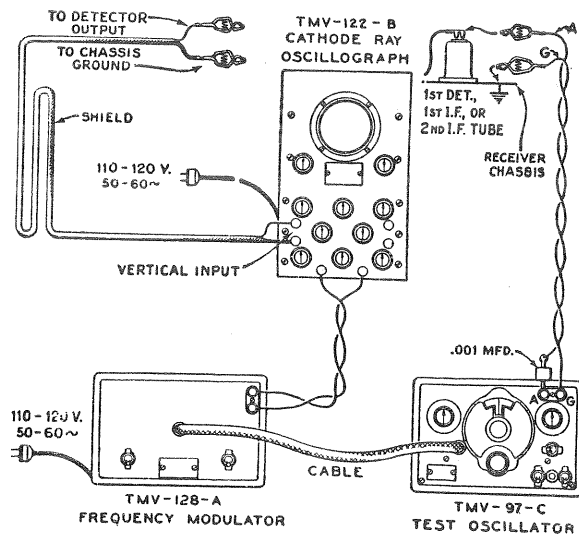
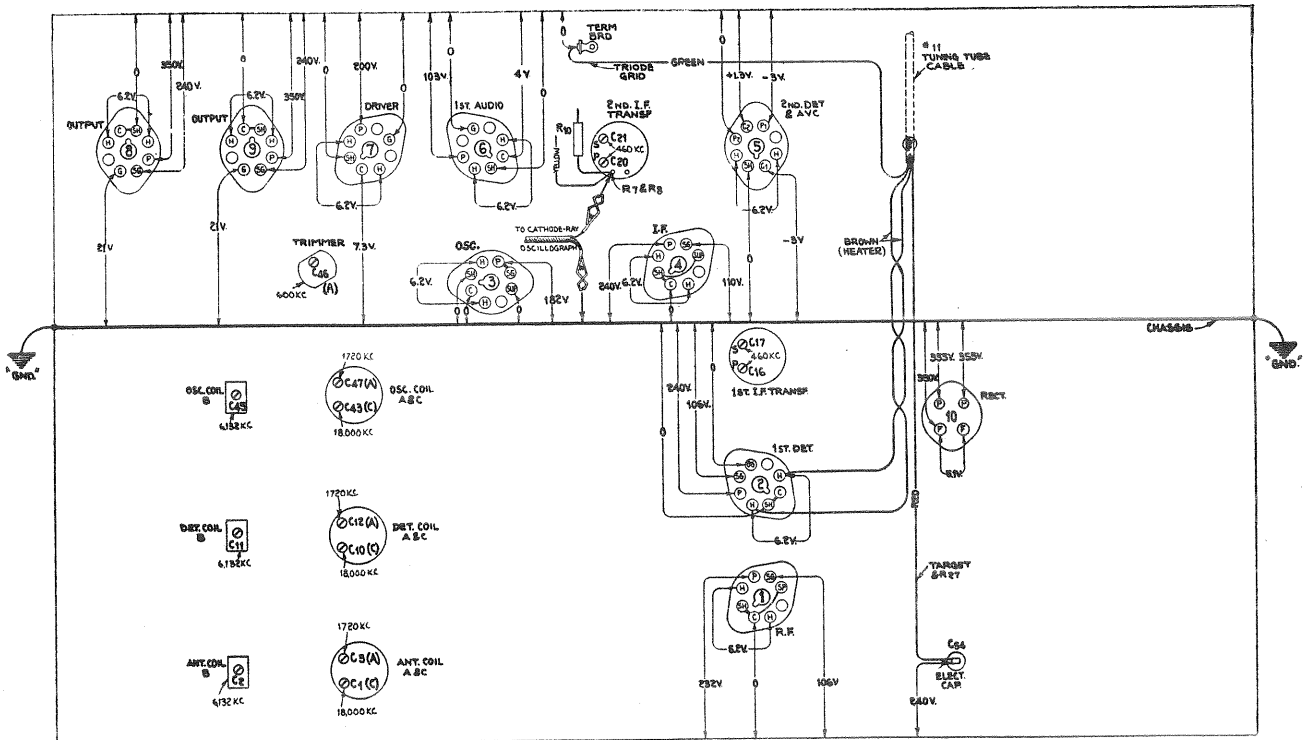

Figure 5—Alignment Apparatus Connections
Figure 6—Trimmer Locations and Radiotron Socket Voltages Measured at 115 Volts A.C.—No Signal—Volume Control Maximum
The four trimmers of the two i-f transformers are located as shown by Figure 6. Each must be aligned to a basic frequency of 460 kc. The last transformer must be aligned firstly and the first transformer aligned secondly. For such a process, it is necessary to feed the output of the Full Range Oscillator to the stages in their order of alignment, adjusting the trimmers of each transformer and observing the effect at the second detector output on the Cathode-Ray Oscillograph. The proper point of connection of the Oscillograph is with its vertical "high" input terminal attached to the juncture of R-7 and R-8, as illustrated in Figure 6, and with the "0" or ground terminal to the chassis. The "Ext. Sync." terminals of the Oscillograph should be connected to the Frequency Modulator as shown by Figure 5. A .001 mfd. capacitor installed in series with the Oscillator "Ant." lead will prevent the voltages of the stage under alignment from becoming upset. The vertical "A" amplifier should be "On" for the ensuing adjustments and its gain control kept at maximum. For each adjustment, the Oscillator output must be regulated so that the image obtained on the Oscillograph screen will be of the minimum size convenient for accurate observation. Proceed further as follows:—
- (b) Attach the output of the test Oscillator between the control grid cap of the RCA-6K7 i-f tube and chassis ground as shown typically by Figure 5. Tune the Oscillator to 460 kc. and set its modulation switch to "On." Regulate its output until the signal produces a wave pattern on the Oscillograph screen, adjusting the Oscillograph controls to give a shape which is convenient for peak indications. Cause the image to stand still on the screen by manipulation of the frequency and synchronizing controls. Then carefully tune the two trimmers C-20 and C-21 of the second i-f transformer to produce maximum amplitude (vertical deflection) of the oscillographic image. Under this condition the transformer will be sharply resonated to 460 kc.
- (c) The Frequency Modulator should then be placed in operation and interconnected with the Full Range Oscillator by means of the special shielded patch cord. Figure 5 shows the proper arrangement. Set the Frequency Modulator sweep range switch to its "Lo" position and turn the Oscillator modulation switch to "Off." Change the timing control of the Oscillograph to "Ext." and place the range switch to its No. 2 position. Then carefully shift the tuning of the Oscillator so as to increase its frequency, until two distinct and similar waves appear on the Oscillograph screen and become exactly coincident at their highest points. This condition will be found to occur at an Oscillator setting of approximately 540 kc. The curves will be identical in shape but appearing in reversed positions. Adjust the frequency control of the Oscillograph in order to cause the waves to conform with the above requirement and to make them remain motionless on the screen. This will require a setting of approximately 1/2 clockwise rotation of the frequency control. The trimmers C-20 and C-21 should then be re-adjusted so that the two curves move together and become exactly coincident throughout their lengths, maintaining the maximum amplitude at which this condition can be brought about.
Locations of the various antenna, detector and oscillator coil trimmers are shown by Figure 6. The test Oscillator should be removed from connection with
sary to have the timing control of the Oscillograph on "Int." for this operation. After each trimmer has been peaked, the Oscillograph timing control should be set to "Ext." and the Frequency Modulator placed into operation with its connections to the Oscillator and Oscillograph made in accordance with Figure 5. Turn the modulation switch of the Oscillator to "Off" and retune the Oscillator (increase frequency) until the forward and reverse waves show on the Oscillograph and become coincident at their highest points. Adjust the trimmers C-47, C-12 and C-3 again, setting each to the point which produces the best coincidence and maximum amplitude of the wave images.
The voltage values indicated from the Radiotron socket contacts to chassis on Figure 6 will serve to assist in the location of causes for faulty operation. Each value as specified should hold within + 20% when the receiver is normally operative at its rated supply voltage. Variations in excess of this limit will usually be indicative of trouble in the basic circuits. The voltages given are actual operating values and do not allow for inaccuracies which may be caused by the loading effect of a voltmeter's internal resistance. This resistance should be duly considered for all readings. The amount of circuit resistance shunting the meter during measurement will determine the accuracy to be obtained, the error increasing as the meter resistance becomes comparable to or less than the circuit resistance. For the majority of readings, a meter having an internal resistance of 1000 ohms per volt will be satisfactory when the range used for each reading is chosen as high as possible consistent with good readability.